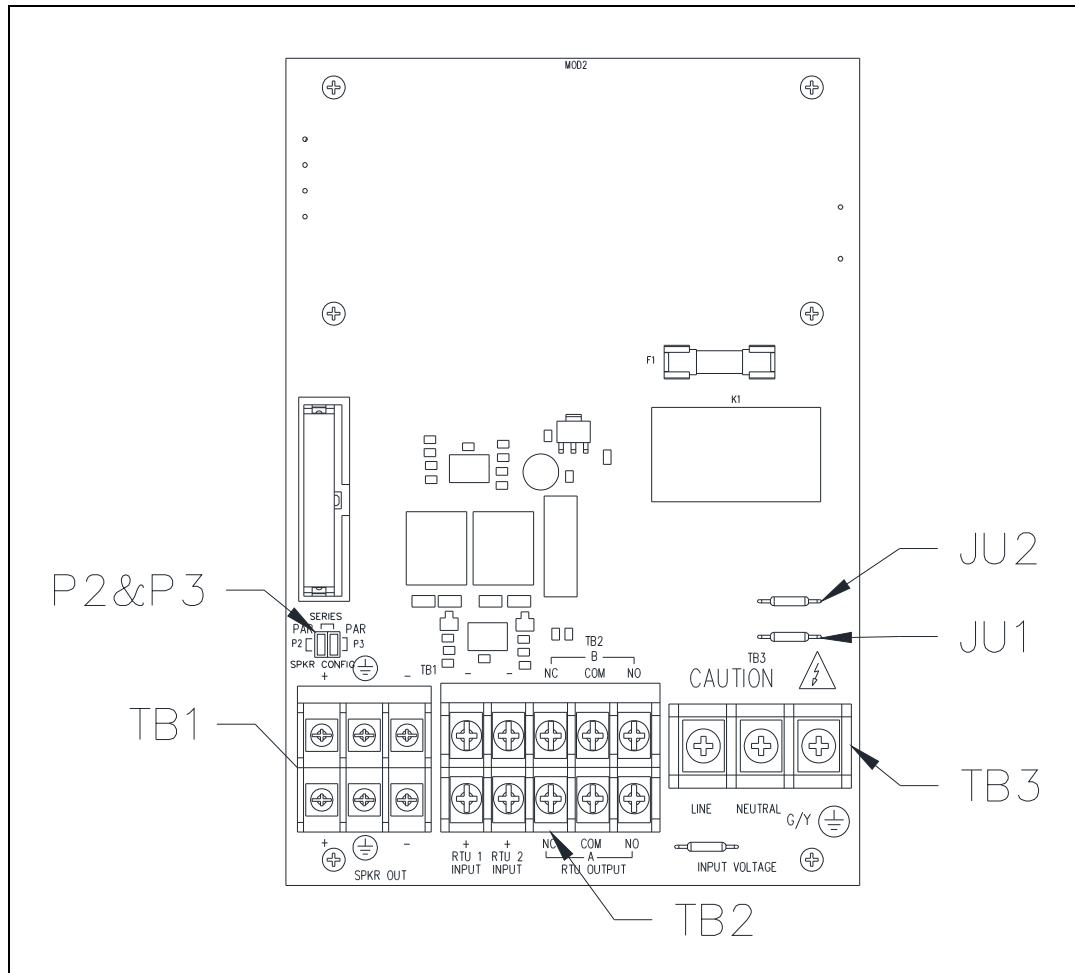
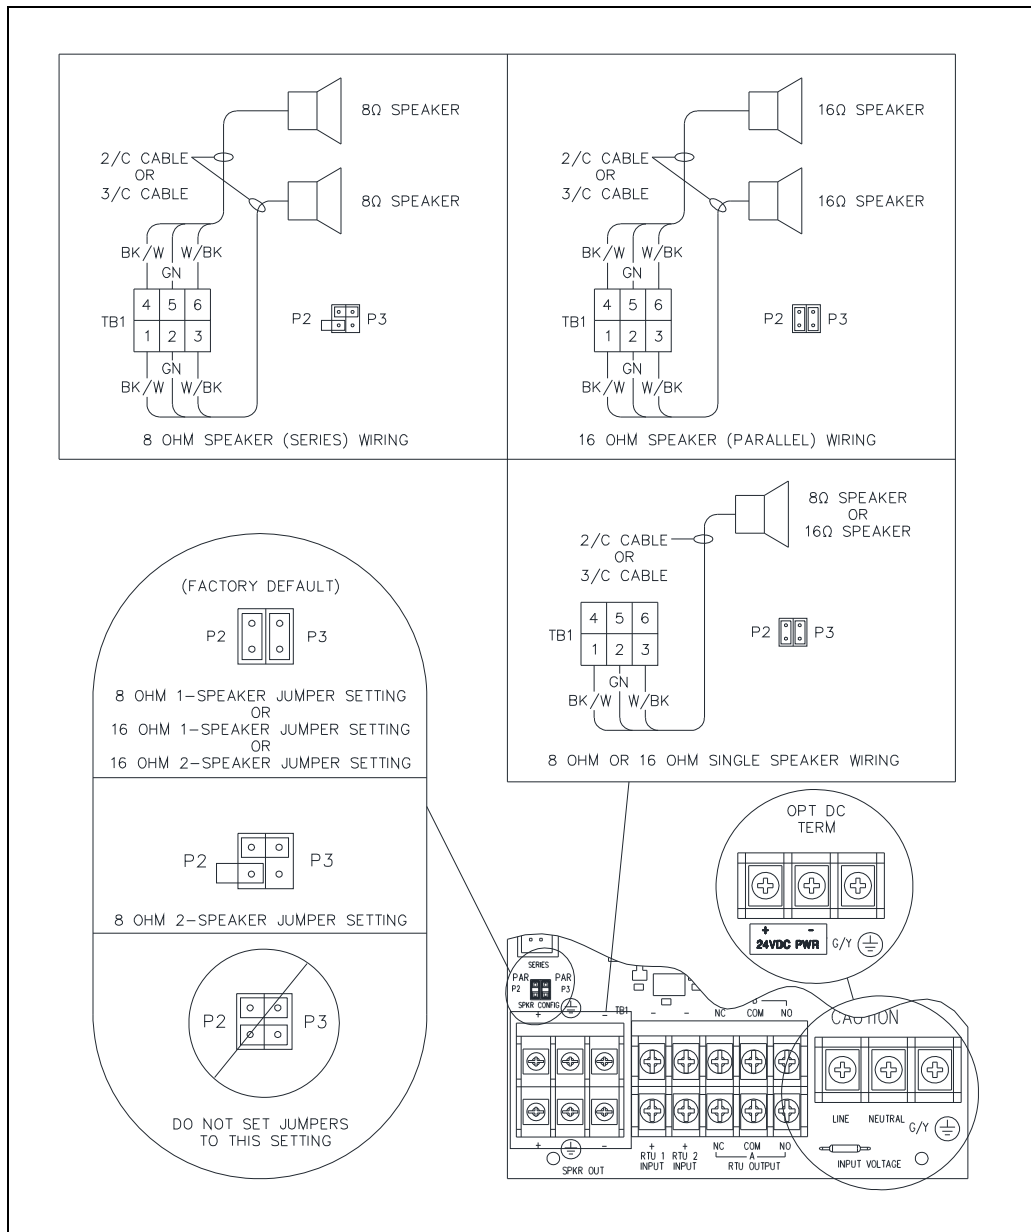
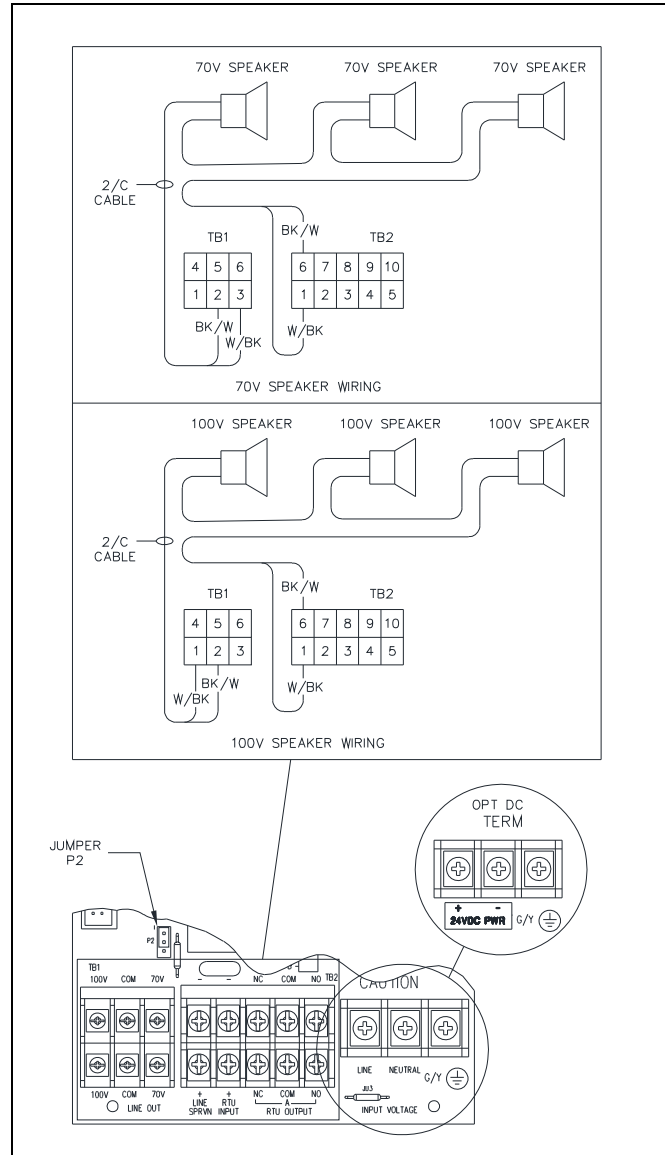
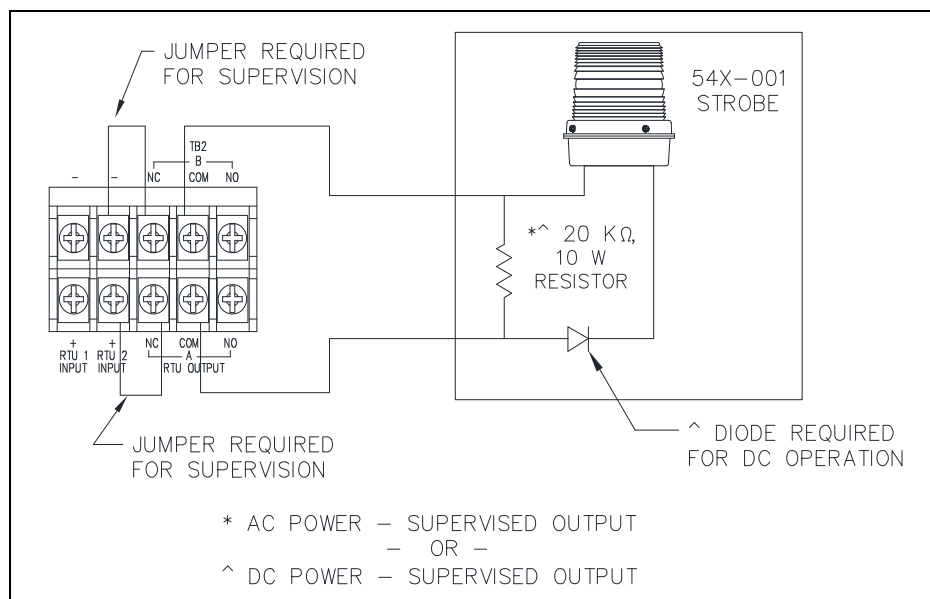

Figure 4. SP2 Standard Termination PCBA
Figure 5. 8/16-ohm Speaker Impedance Configuration and AC/DC Termination at TB3
Figure 6. 70-V/100-V Termination PCBA
Figure 8. Supervised Output Wiring—TB2
5. Configure the speaker jumpers, P2 and P3, for the appropriate impedance for use with 8-ohm or 16-ohm speakers (see Figure 4 and Figure 5).
The optional 70-volt/100-volt speaker line-monitoring PCBA replaces the standard termination board and enables connection of 70-volt and/or 100-volt speakers to the SP2 station. Terminate the station’s speaker loop(s) to terminal block TB1. Wire all speakers in parallel. Monitor one speaker loop for faults by terminating the return cable to the LINE SPRVN terminals at terminal block TB2 (see Figure 6 and Table 2).
The standard termination PCBA contains two auxiliary RTU inputs. The optional 70V/100V termination PCBA provides speaker line monitoring and has just one auxiliary RTU input. Terminate the inputs at terminal block TB2 (see Figure 5 or Figure 6).
Two form C contacts are provided to power a beacon (see Figure 8). Terminate the outputs at terminal block TB2 (see Figure 4, Figure 5, and Figure 6). Configure the outputs for dry contact use by removing jumpers JU1 and JU2.
3. Connect the RTU output wires to terminal block TB2 (see Figure 8).
5. Install a 20-kilohm 10-watt resistor across the terminals of the beacon (see Figure 8).
6. Install jumpers at terminal block TB2 (see Figure 8) to enable cable monitoring.
The ac or optional dc power supply is mounted in the Zone 2/22 enclosure. Connect the local ac or dc power source to terminal block TB3 (see Figure 4, Figure 5, and Figure 6):